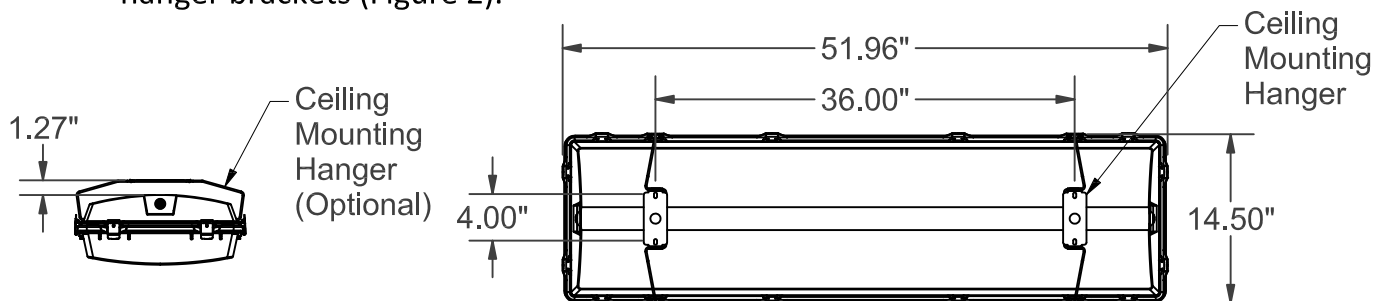

FIGURE 2
2. Install fixture by attaching the ceiling mounting hanger to the fixture hanger brackets (Figure 2).